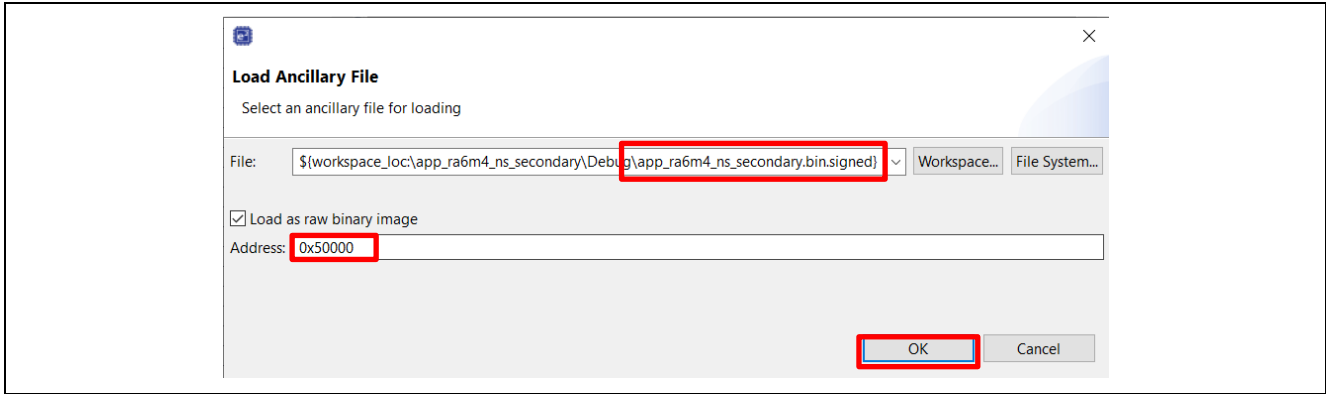

Figure 20. Load the Secondary Non-Secure Application Image for Overwrite Update Mode
- Load the non-secure new application image to the Secondary slot region using the Ancillary loading capability  from the top of the e² studio toolbar in a similar way as Figure 20 except use address 0x60000.